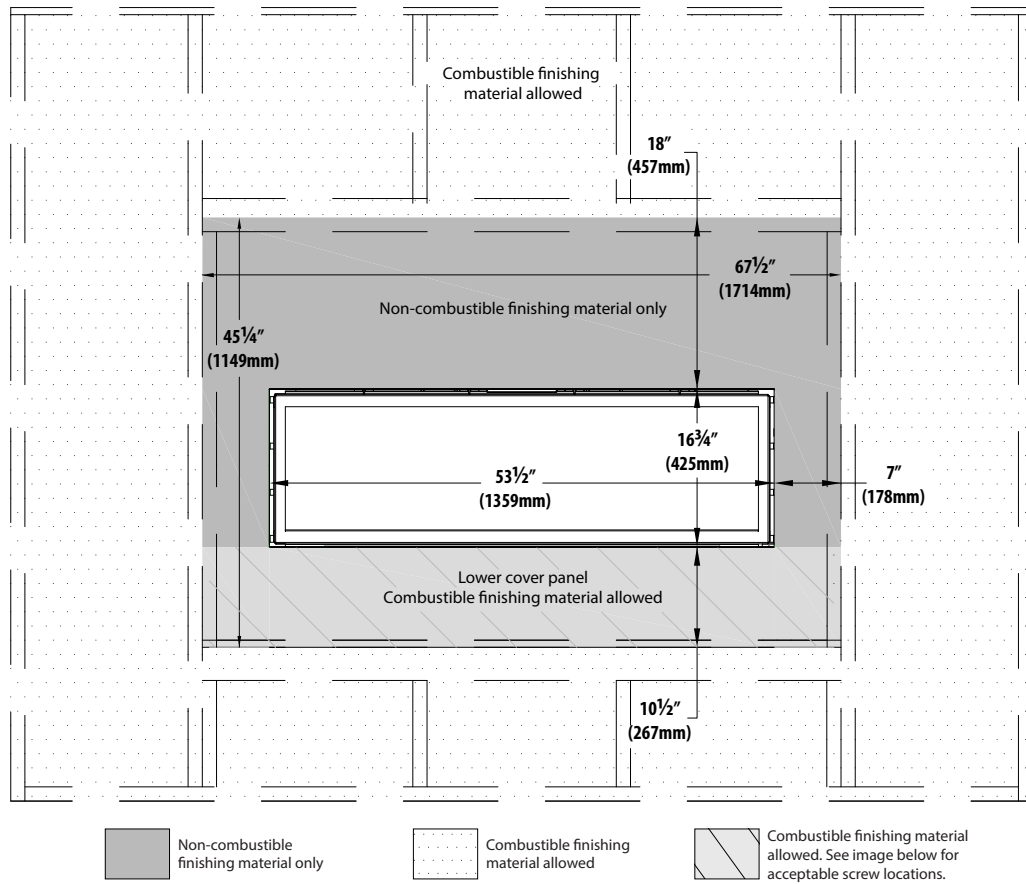

Figure 3.3, CLW-ST Minimum Non-combustible Finishing Dimensions
- Figure 3.9 shows installation of combustible wall finish up to 1" thick. This combustible material goes over any required non-combustible materials as shown in Figure 3.3 on page 15.